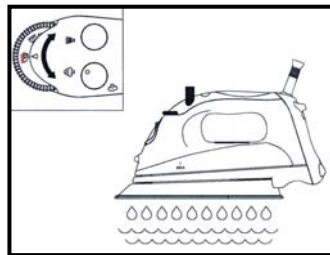

Fig. 8
5. Turn the variable steam control dial all the way to the right to the self-cleaning position and hold the iron horizontally over the sink (Fig. 8).